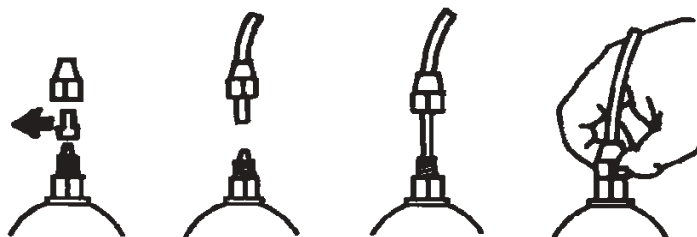

Fig. 7
- e.** - Remove the protection caps from the two nipples, slide the hoses over the connectors, pushing them right home, and then fix them with appropriate tube nuts. (Fig. 7).